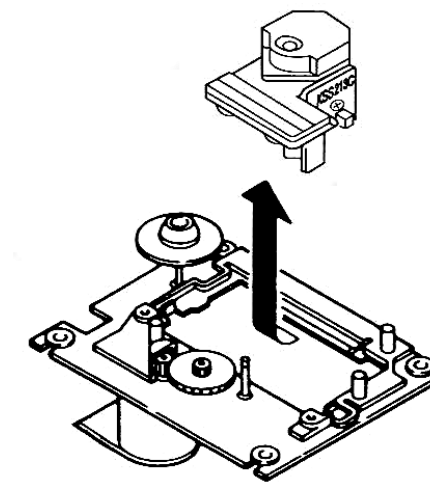

Fig. 8
5. Remove the pickup (See Fig. 8).